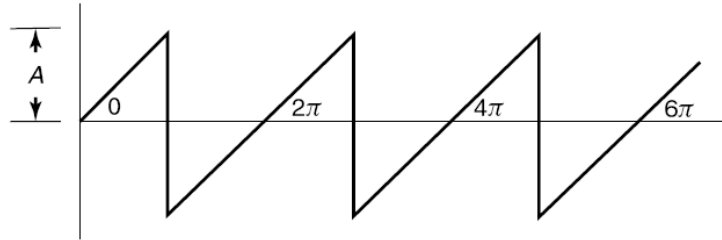

Figure 4(a)(i)
4. [a] (i) Construct a frequency spectrum with harmonics up to 7th harmonics for Figure 4[a](i).